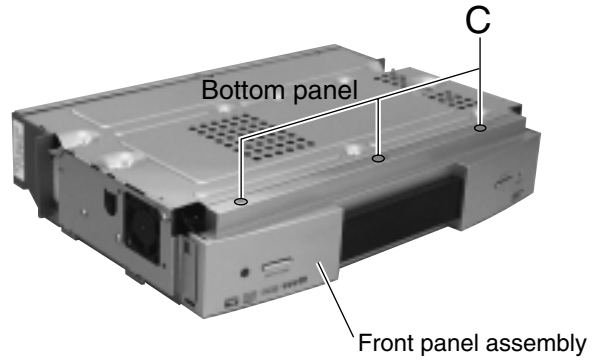

Fig.3
**(See Figs.3 to 7)**
1. Remove the front panel assembly and the DVD mechanism base together from the main unit. (See Figs. 3 to 7.)